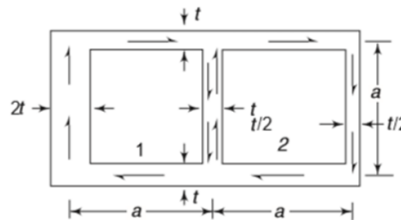

Figure 7
6. (a) For figure 7 given below a two cell tubular section whose wall thicknesses are as shown. If the member is subjected to a torque  $T$ , determine the shear flows and the angle of twist of the member per unit length. [10M]